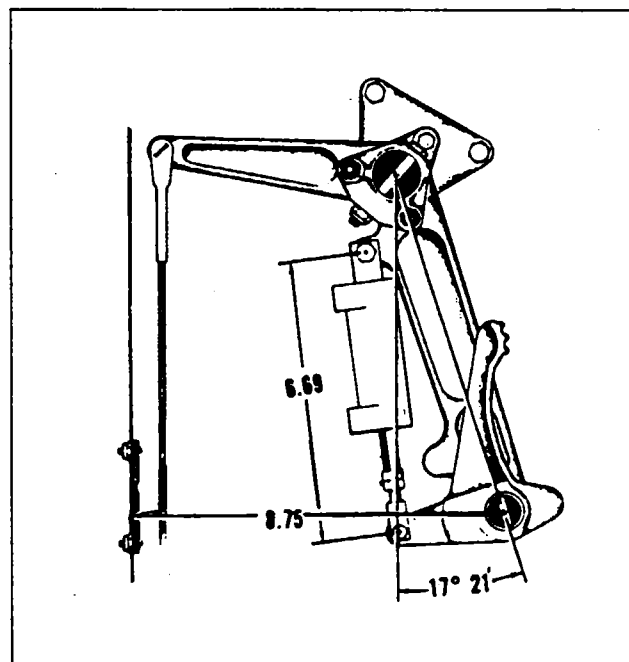

Figure 5-14. Rigging of Rudder Pedals
- b. Adjust the brake master cylinders (26) and rods (24) to obtain 6.69 inches measured from the upper fitting to the lower fitting on the pedal assembly as shown in Figure 5-14.
- c. The neutral angle of the rudder pedals is $17^{\circ} 21'$ aft of the vertical position, with the airplane level, as shown in Figure 5-14.